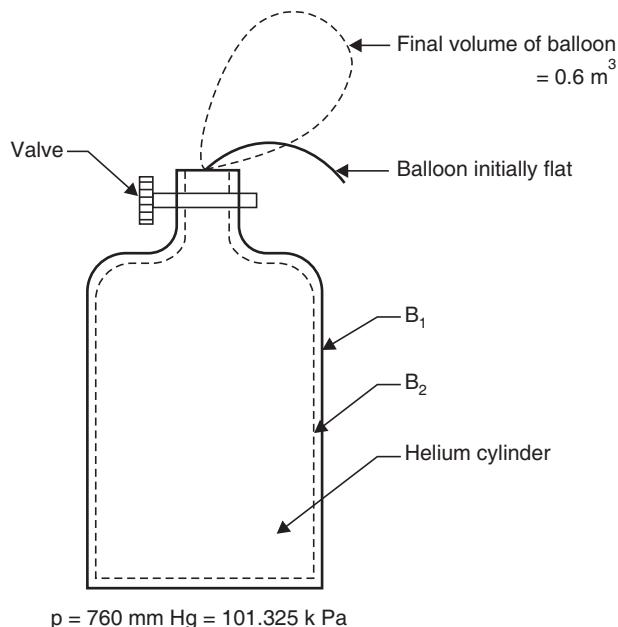

Fig. 1.33
**Solution.** Refer Fig. 1.33. The firm line  $B_1$  shows the boundary of the system before the process, and dotted line  $B_2$  shows the boundary after the process.